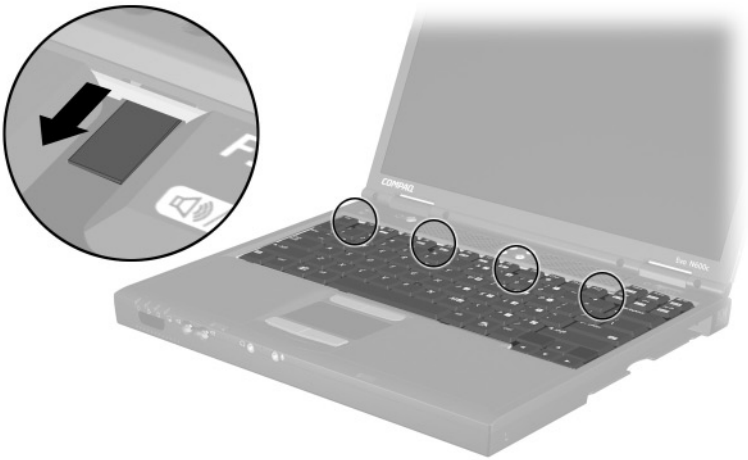

Figure 5-11. Releasing the Keyboard
- Slide the four tabs on the top of the keyboard forward (Figure 5-11).